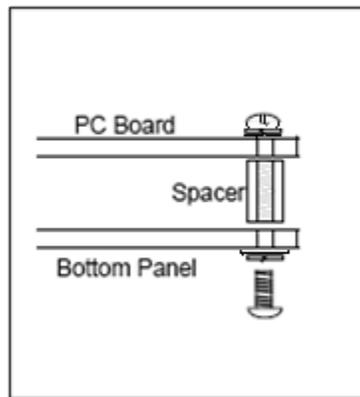

Figure 14. Mounting the spacers to the bottom panel
13.  Remove the right side panel, slide in the bottom panel and attach it to the spacers with 1/4 inch 4-40 screws, flat washers and lock washers (Figure 14). The bottom panel holes are not equidistant from the edges - the hole on the TUNING control side is closer to the right edge than the hole on the VOLUME control side is to the left edge. You may need to flip the bottom panel if the holes do not line up with the spacers. Reattach the right side panel. Attach the four rubber feet to the corners of the bottom panel. At this point the enclosure is complete except for the top panel.